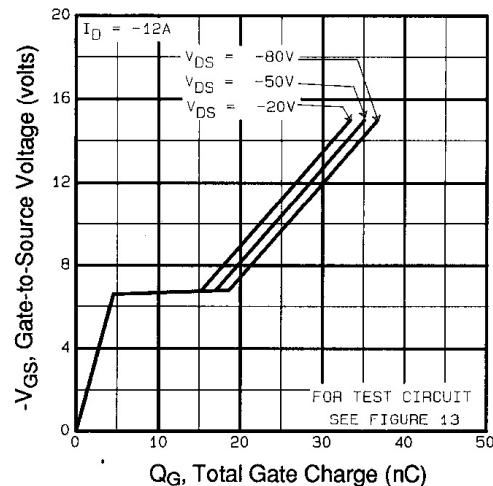

Fig 6. Typical Gate Charge Vs.
| Q_{gd} | Gate-to-Drain ("Miller") Charge | — | — | 21 | nC | $V_{GS}=-10\text{V}$ See Fig. 6 and 13 ④ |